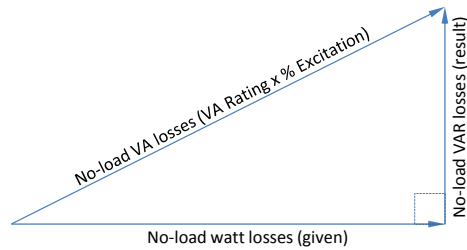

Figure 11. Deriving No-load-VAR-Losses.
The rated no-load-VAR-losses are *not* given in the transformer's datasheet as watt-losses are. They must be derived. That is done by solving the power triangle for VAR-losses where the watt-losses and the VA-losses are known. Watt-losses, (2) in Table 1, are given in the transformer's datasheet. VA-losses are the product of the transformer's VA rating, (5) in Table 1, times the percent excitation, (4) in Table 1. This is illustrated in Figure 11, below.